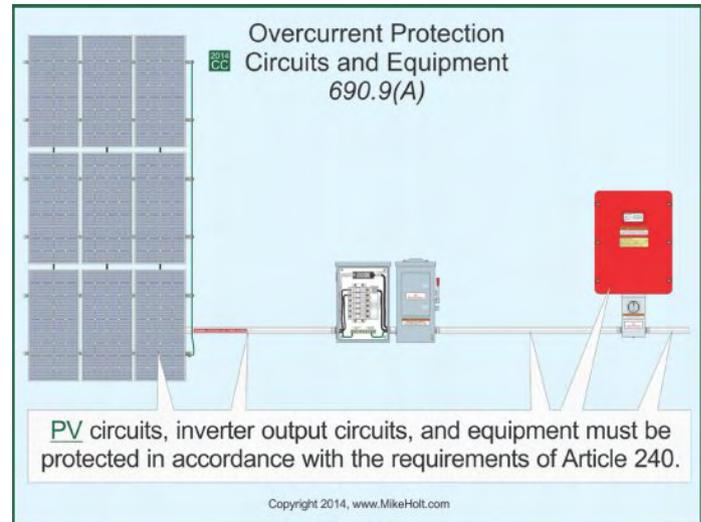

Figure 690-49
**(A) Circuits and Equipment.** PV source circuits, PV output circuits, inverter output circuits, and storage battery circuits and equipment must have overcurrent protection in accordance with Article 240. Figure 690-49